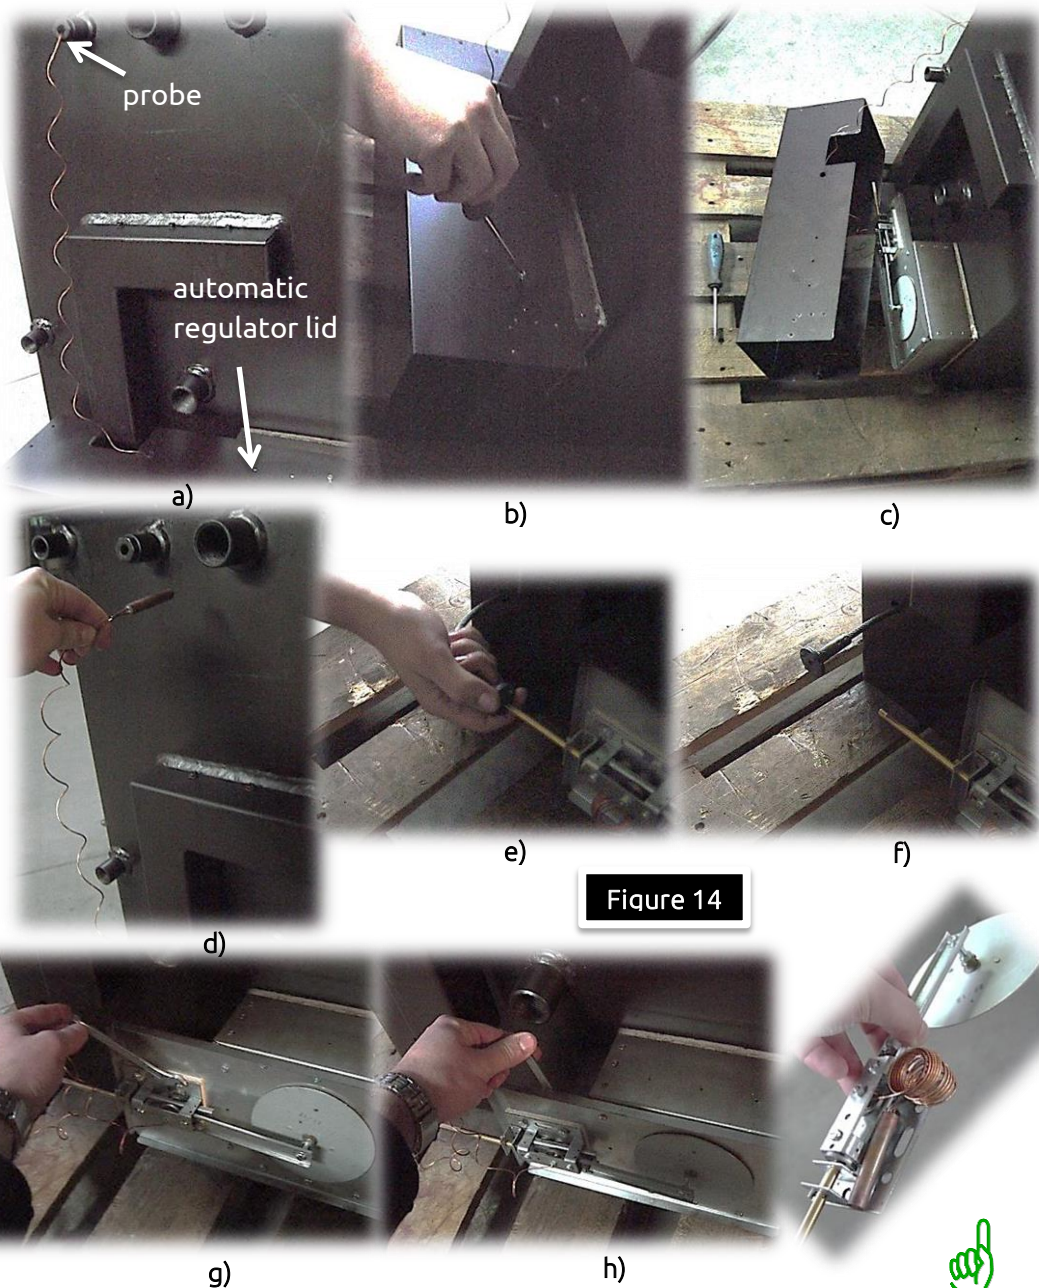

Figure 14
- pull out the probe from the boiler – *Figure 14 d*,